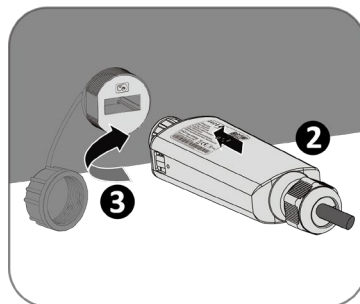

Fig. 43. Remove the cap
1. Remove the cap on the COM1 connector (see Fig. 43).